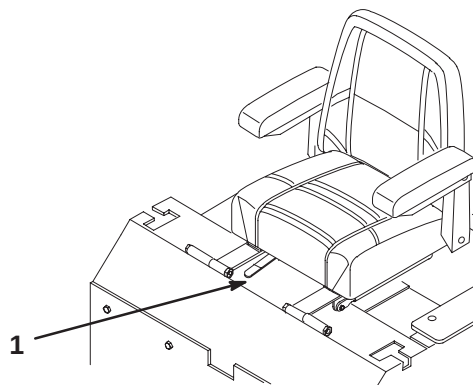

Figure 28
1. To adjust, move the lever sideways to unlock seat (Fig. 28).